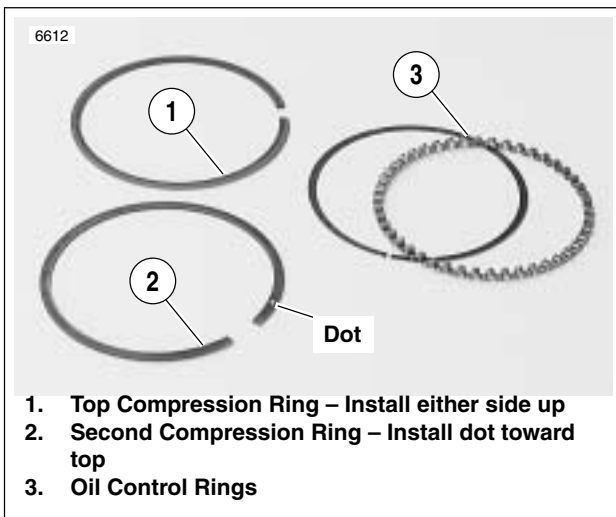

Figure 3-35. Piston Rings
See Figure 3-35. Piston rings are of two types: compression (1, 2) and oil control (3). The two compression rings are positioned in the two upper piston ring grooves. The dot on the second compression ring must face upward. Ring sets are available to fit standard and oversize pistons.